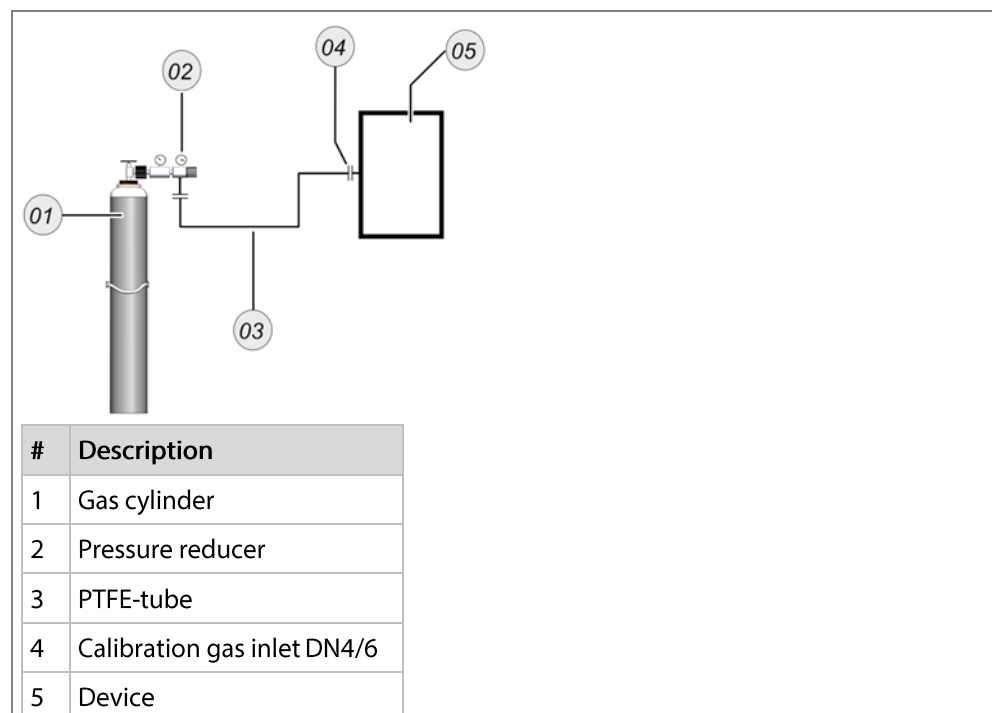

Fig.1
- ☐ Connect the adjustment gas cylinder to *Calibration gas inlet 1*, *Calibration gas inlet 2*, etc. (Fig.1)